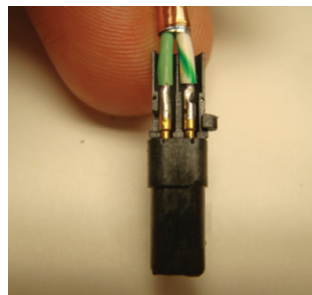

Figure 28: Attaching black rear insulator
20. One pair at a time, place the black rear insulator on the back of the contact (Figure 28).